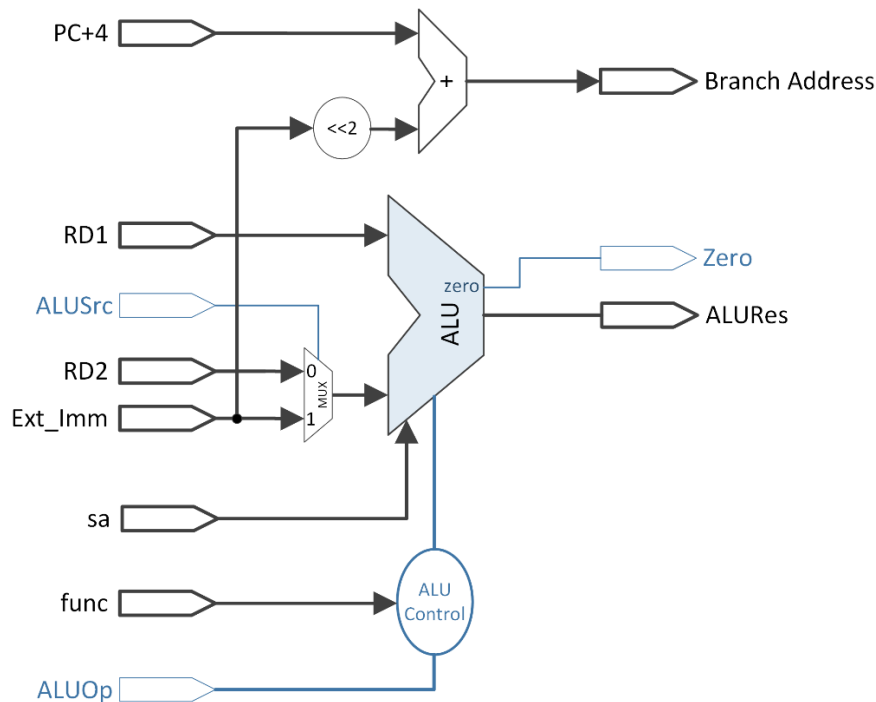

Figure 7.5: Instruction Execute Data-Path for MIPS 32
The data-path of the Instruction Execute Unit is presented in Figure 7.5.
Taking into account the instruction execution data-path from Figure 7.5 design a new component (new entity) in the “test\_env” project for your own single-cycle MIPS 16. All the data fields are 16-bits wide.
The Ex entity will contain the hardware components described in Figure 7.5 that will not be implemented with other components (use behavioral VHDL description)
**Attention!** Be careful when transforming the data fields from Figure 7.5 (MIPS 32) into your own single-cycle MIPS 16 implementation.